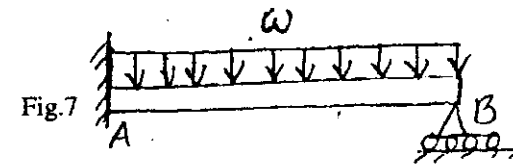

Fig.7
- VI Determine the reaction at the supports for the prismatic beam and loading shown in Fig.7. (20)